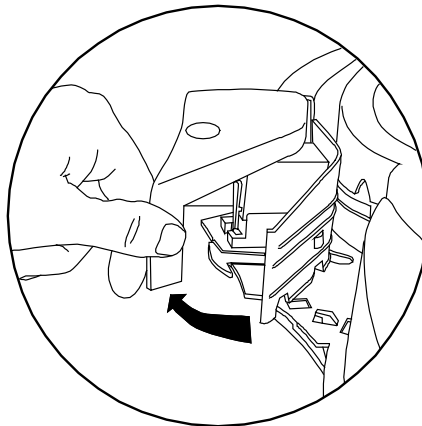

Figure 2-4. Separating the Cover from the Outside Entry Guide
3. Open the **Printer/Cartridge Cover** by pulling the Cover from the Inside Guide as shown in Figure 2-4.